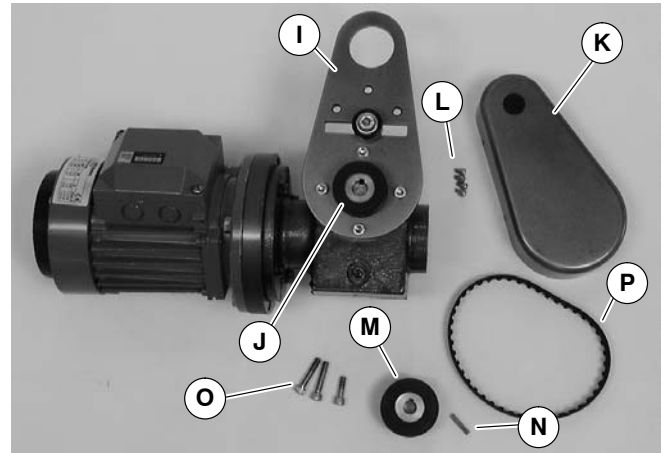

Figure 4
1. Gather installation components (Figure 4)
NOTE: Type 1 mounting package shown (Figure 4), Type 2 mounting package similar.